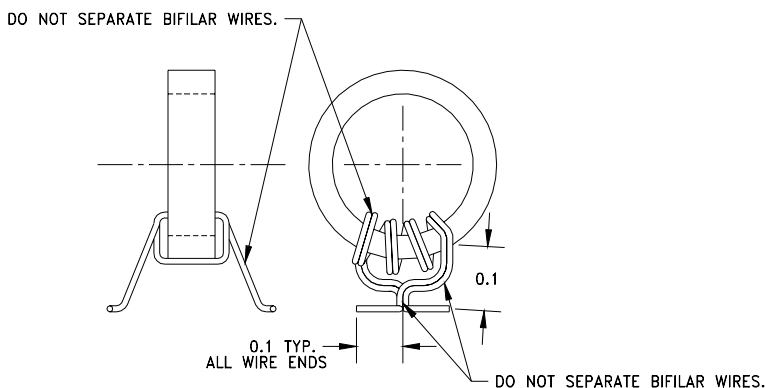

Figure 14: Balun Drawing
1. T1, T2 (balun) wind 4 turns thru core as shown. (Figure 14).